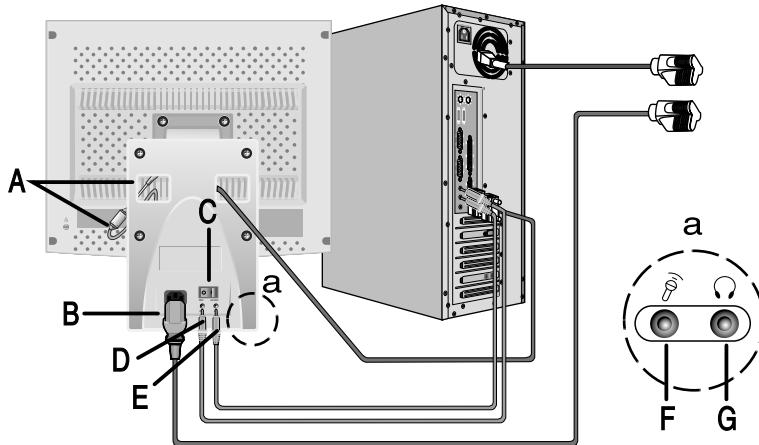

Figure 4. Multimedia connections
- 2** If you have a Multimedia or Multimedia Pivot stand, connect the attached power adapter jack (A) to the DC power port on the back of your monitor. Connect the power cord to the power port on the back of the stand.
- 3** Follow the directions that came with your sound card or your computer to connect the speakers and microphone on the stand. See Figure 4, above and Table 1, below.